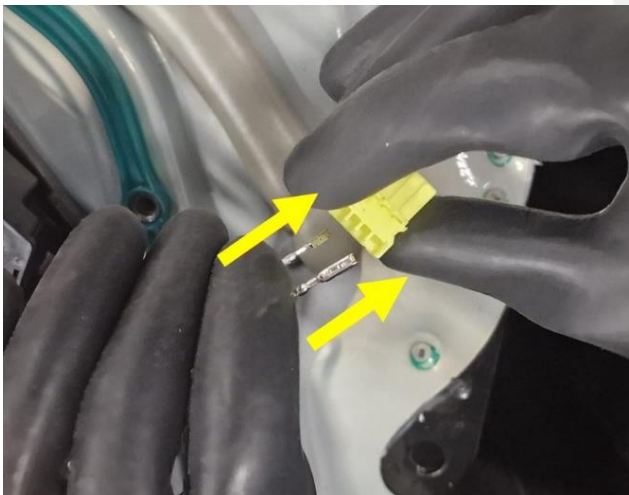

Figure 15
18.Insert the terminals (x2) into the HV+ sense connector (Figure 15).